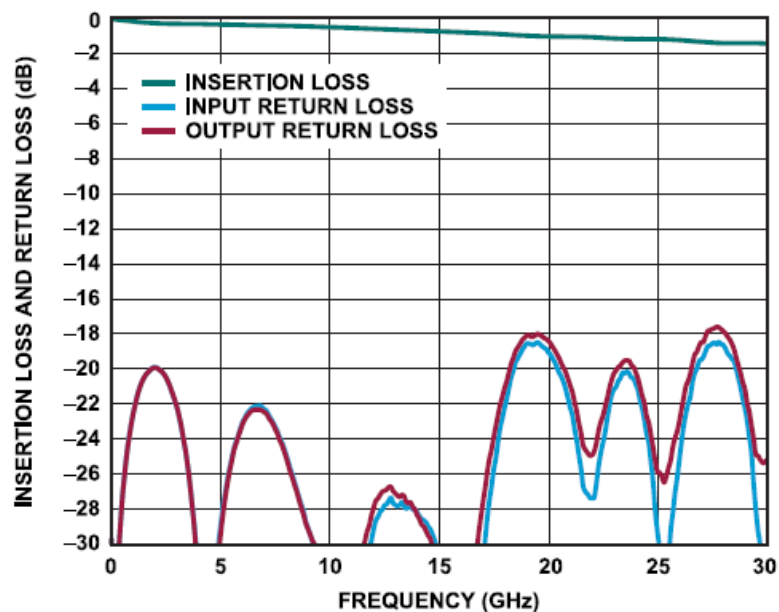
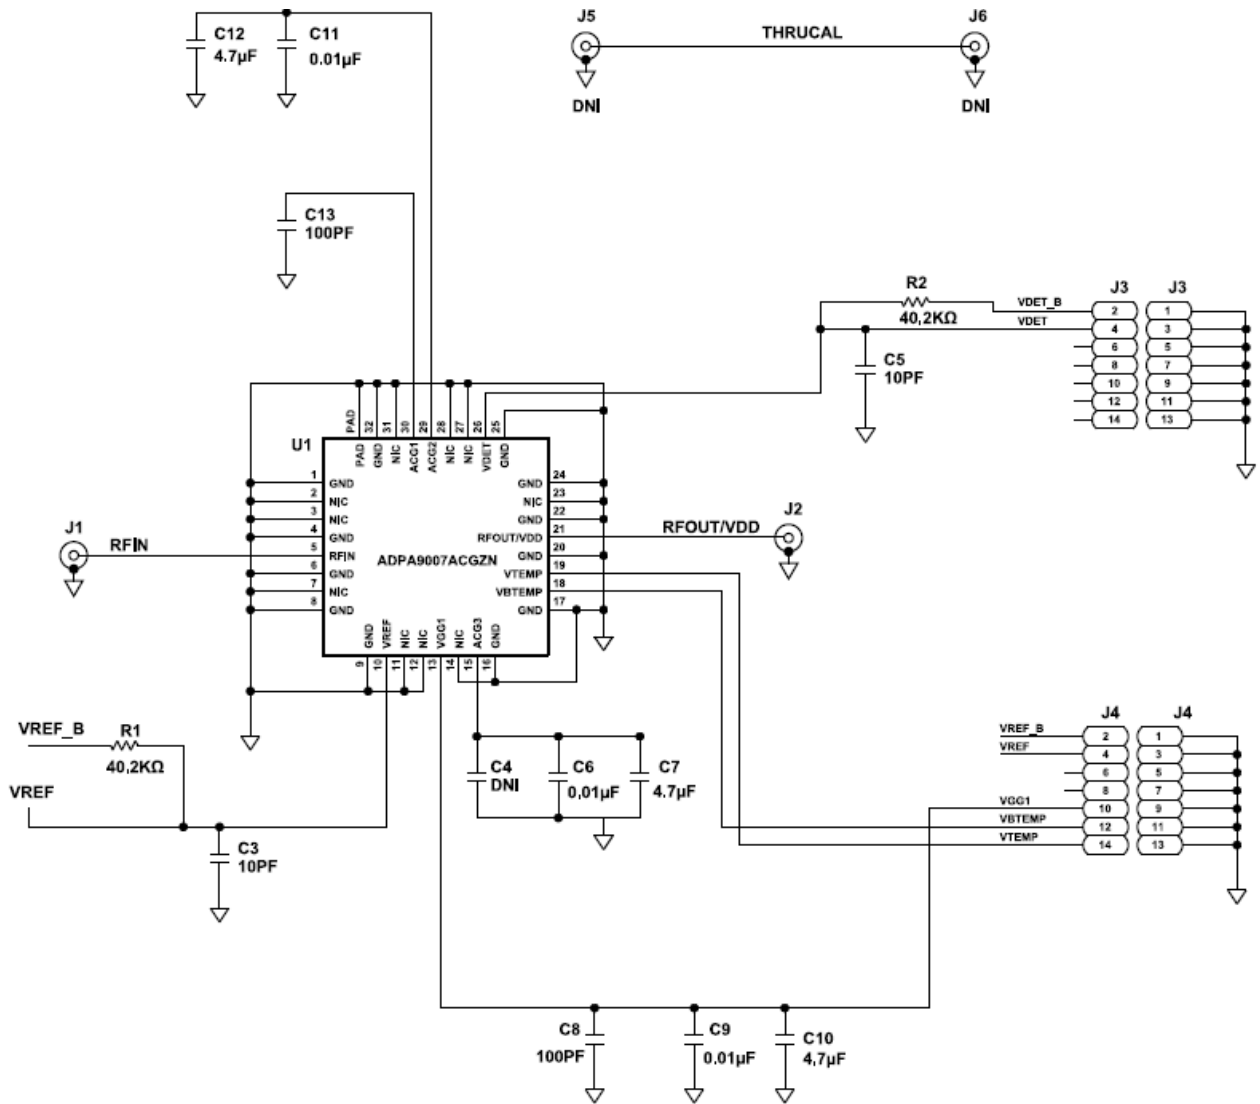

Figure 4. Insertion Loss of Through Calibration Path
Figure 5. ADPA9007-EVALZ Evaluation Board Schematic
- The power supply decoupling capacitors shown in the Figure 5 represent the configuration used in characterizing the device. Full details about the part are available in the ADPA9007 data sheet, which must be consulted when using the EVAL-ADPA9007.
Figure 4 shows the plot of the data in Table 2 of the through calibration path (J5 to J6). See Figure 5 for the evaluation board schematic.